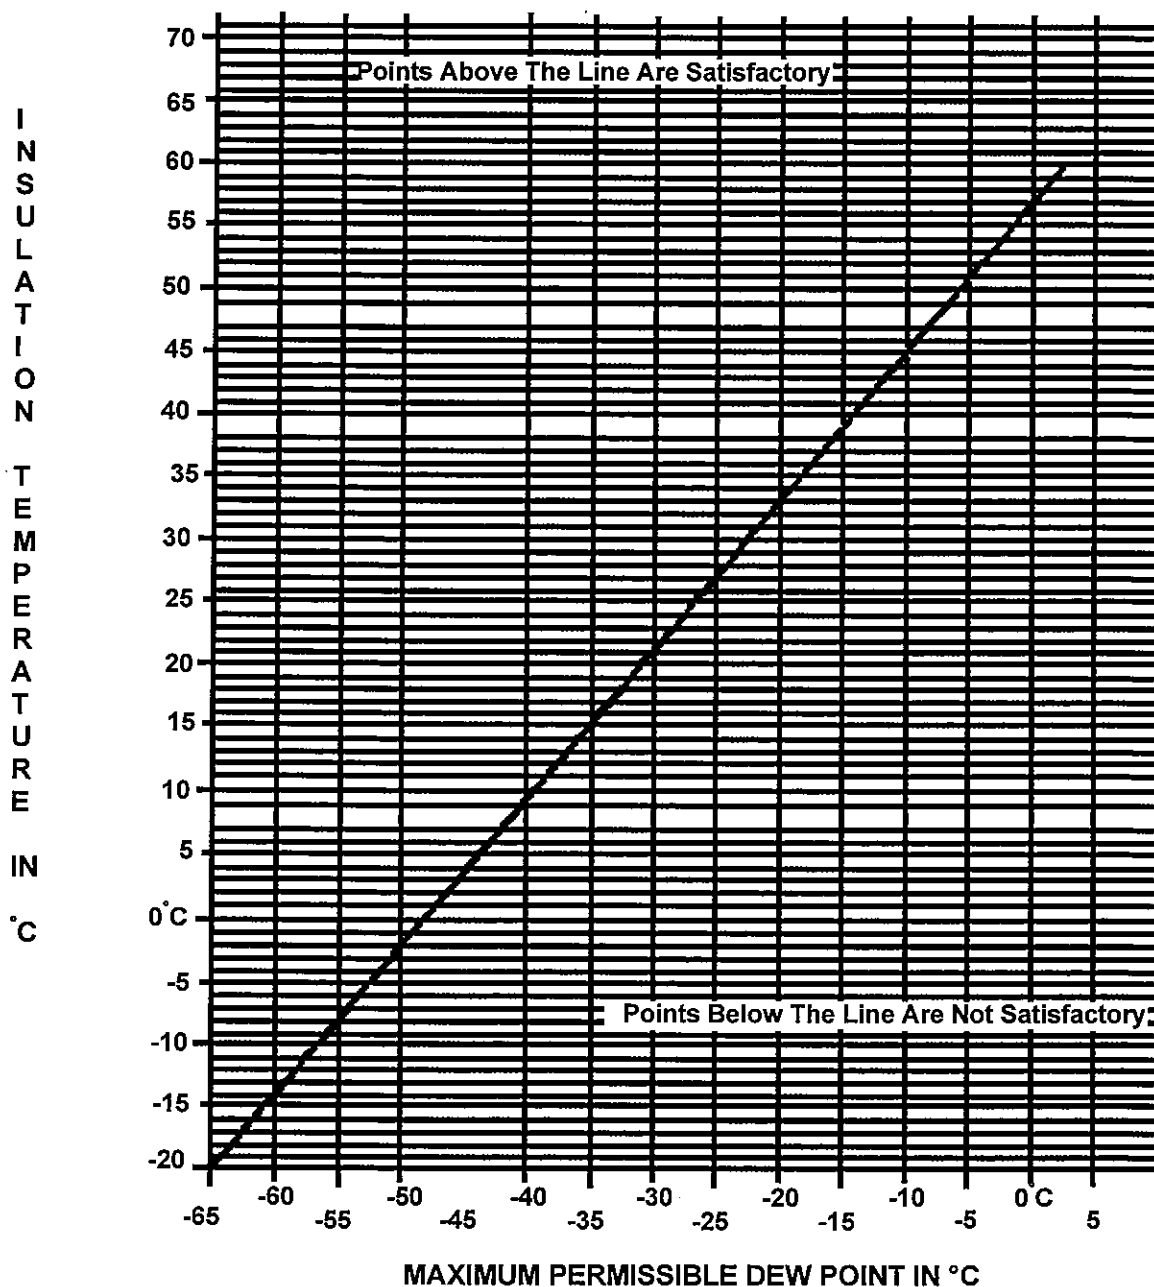

Figure 1
The conservator air cell preservation system provides a head of oil in an expansion tank above the main transformer tank so that the transformer tank is filled at all times. The quality of the insulating oil is preserved by sealing the oil from atmospheric contaminants such as moisture and oxygen. Figure 1 shows an illustration of the system.
As the oil level falls or rises, air is drawn into the air cell (Part 1 Figure 1) or is expelled through the breather (Part 2 Figure 1). The air cell effectively prevents the transformer oil from coming in direct contact with atmospheric air. The air cell will seal the insulating liquid at atmospheric pressure, inflating or deflating as the oil volume changes in the conservator tank.
- ♦ The conservator tank is normally shipped with the air cell deflated and the breather (Part 2 Figure 1) in place.
1. Once the vacuum in the main tank has been broken to dry air then open the shut off valve (Part 4 Figure 1) in the connecting pipe between the main tank and the conservator tank.
2. Open-air release bleeder valves (Part 6 Figure 1). *Note: We recommend that tygon tubing be connected to these valves and run to a pail at ground level in order to catch initial over flow of oil.*
3. Connect oil inlet hose, from degasifier or filter unit, to conservator drain valves (Part 5 Figure 1).
5. When oil starts to run out of the bleeder valves (Part 6 Figure 1) close these valves and shut off the oil supply.
When draining oil from the main tank, care must be taken to ensure that the shut off valve (Part 4 Figure 1) is first closed, then when draining oil from the main tank, open valves on the main cover to admit dry air into the tank. When refilling, it will be necessary to follow instructions number 1 and 8 only from above.
2. Disconnect the breather (Part 2 Figure 1) and place a sealing cap on the breather pipe (Part 3 Figure 1).
3. Open bleeder valves (Part 6 Figure 1) at the top of the conservator tank and continue the draining process.
- ◆ Close shut off valve between conservator tank and main transformer tank (Part 4 Figure 1)
- ◆ Open bleeder valves (Part 6 Figure 1).
- ◆ If the transformer has been in service then drain all oil from the conservator tank and leave the drain valve (Part 5 Figure 1) open during the pressure test.
- ◆ Remove the breather (Part 2 Figure 1) or the connecting pipe from the air cells connection as shown in Figure 2. Attach the necessary piping to connect a pressure gauge, valve and an air supply.
- ◆ Inflate the air cell gradually to approximately 1 p.s.i. (7 kPa). This pressure should not drop over a four (4) hour period. If the pressure drops then the air cell is faulty and should be replaced.
Using the curve of Figure 1, determine the maximum permissible Dew Point. This curve which can be used for transformers gas pressures of 0 to 3 p.s.i. (0 to 20 kPa) is based on the insulation surface having average moisture content of 1% and the gas having a pressure of 3 p.s.i. (20 kPa).
A Dew Point reading that is sufficiently low, as determined from Figure 1 indicates that the transformer insulation is dry enough to proceed with installation or vacuum drying and oil filling.